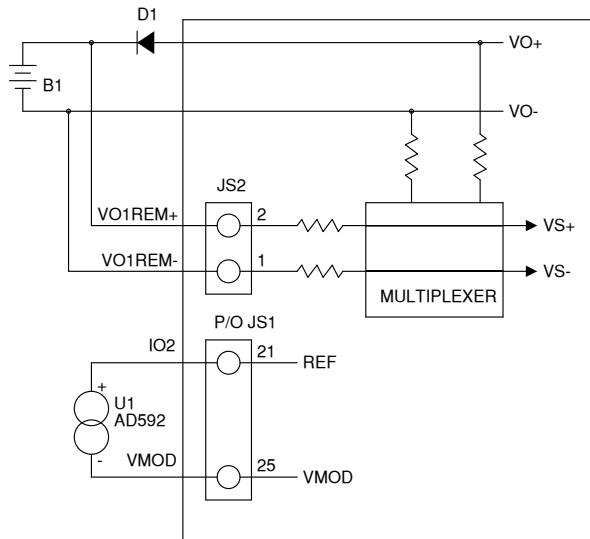

Figure 6.4. Battery Charger with Temperature Compensation
*Figure 6.4, "Battery Charger with Temperature Compensation" illustrates a temperature compensated battery charger for applications with lead acid batteries. Diode D1, placed between the power supply and battery, blocks current from flowing from the battery to the power supply. This eliminates any loading on the battery when the power supply is off, but more importantly, prevents the battery from charging the power supply's output capacitors. With deployment of diode D1, remote sensing should*